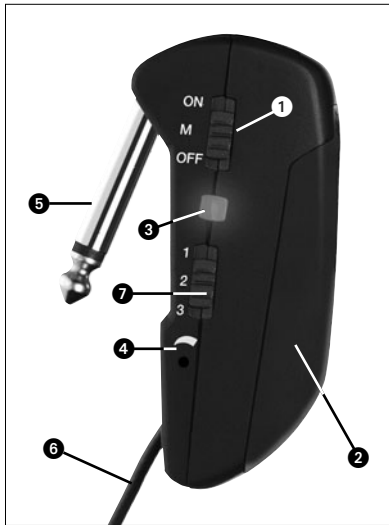

Fig. 1: GB 40 FLEXX controls
2.5 Controls (refer to fig. 1 on page 13)
4.2 Setting Levels (refer to fig. 1 and SR 40 FLEXX receiver manual)